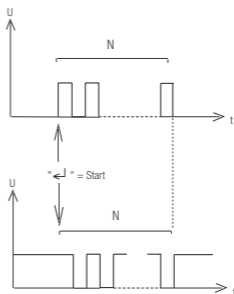

Figure 16 Timing Diagram
8) The pulse output starts with a low level in accordance with the upper timing diagram in Figure 16.
9) The pulse output starts with a high level in accordance with the lower timing diagram in Figure 16.